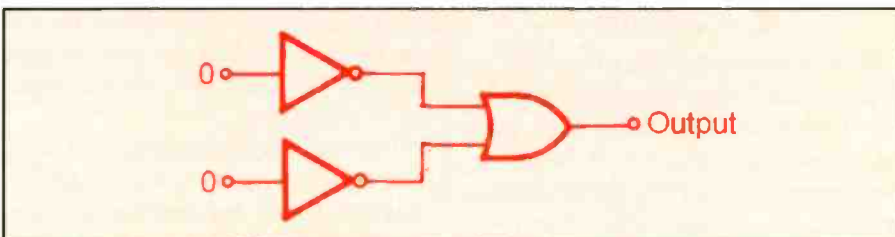

Figure 2. What is the output of these gates?
10. What is the output of the gates in Figure 2?
Figure 2. Here's a way to use fiber optic conductor as a burglar alarm: thread the cable through your computer, printer, tower, etc., then connect it via the appropriate optical interface to the alarm. This scheme can also be used to protect your stationary test equipment.